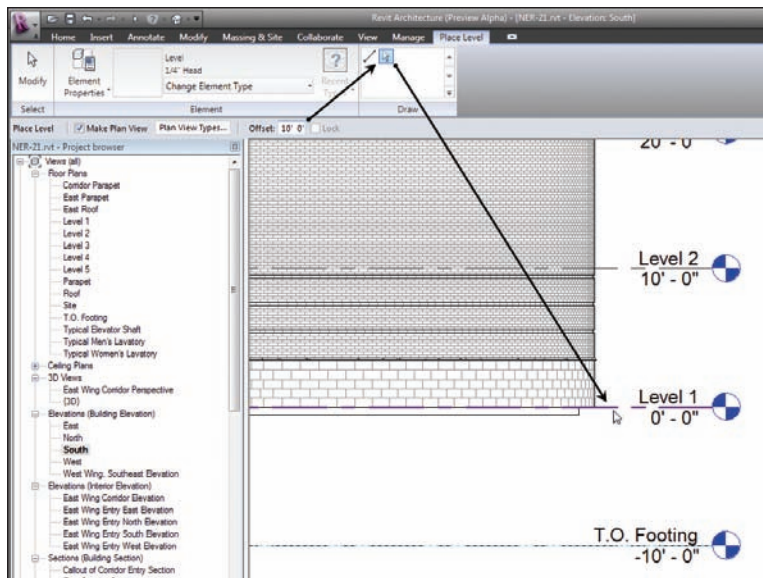

FIGURE 6.52 Adding a new Top Of Footing level
3. On the Draw panel, click the Pick Lines icon, and set an offset of 10'-0" (see Figure 6.52).
6. Pick the level that is set to -10'-0" and rename it to T.O. Footing (see Figure 6.52).